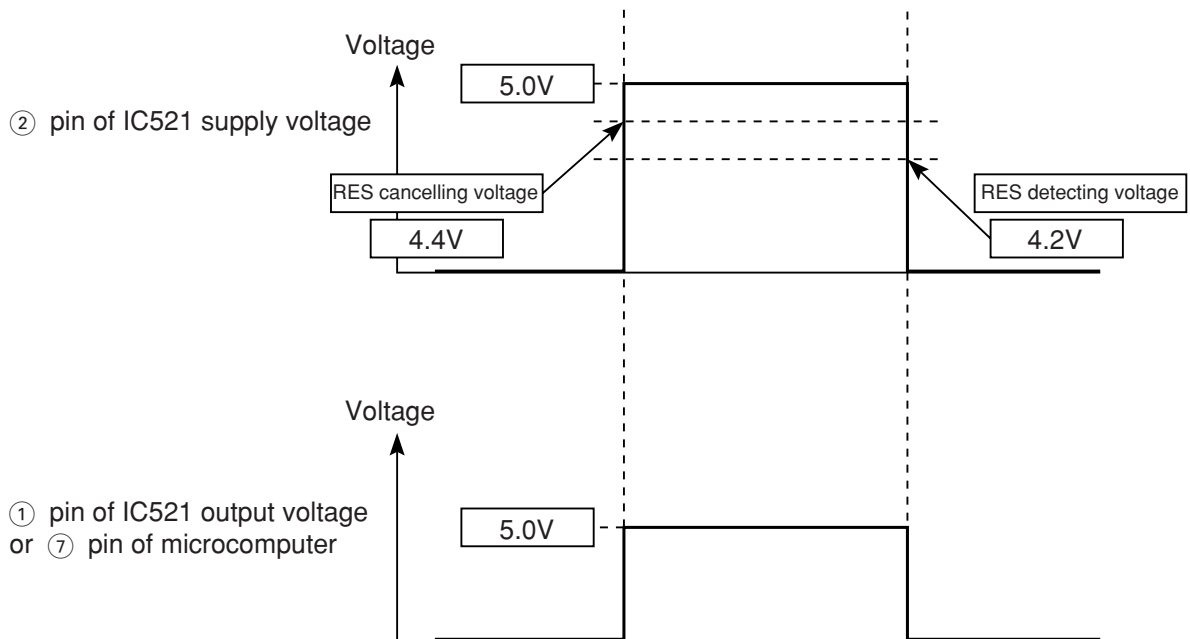

Fig. 2-2
- Microcomputer operates when ⑦ pin of the indoor unit microcomputer (reset input) is “Lo” for resetting and “Hi” for hitting.
- Waveform of each part when switching ON the power and when shutting down is shown in the Fig. 2-2.
- After switching ON the power, ① pin of IC521 and ⑦ pin of microcomputer becomes Hi when DC5V line rises and reaches approximately 4.4V or higher. Then, resetting will be cancelled and microcomputer starts operating.
- After shutting down the power, ① pin of IC521 and ⑦ pin of microcomputer becomes Lo when DC5V line falls and reaches approximately 4.2V or lower. Then, the microcomputer will be in reset condition.